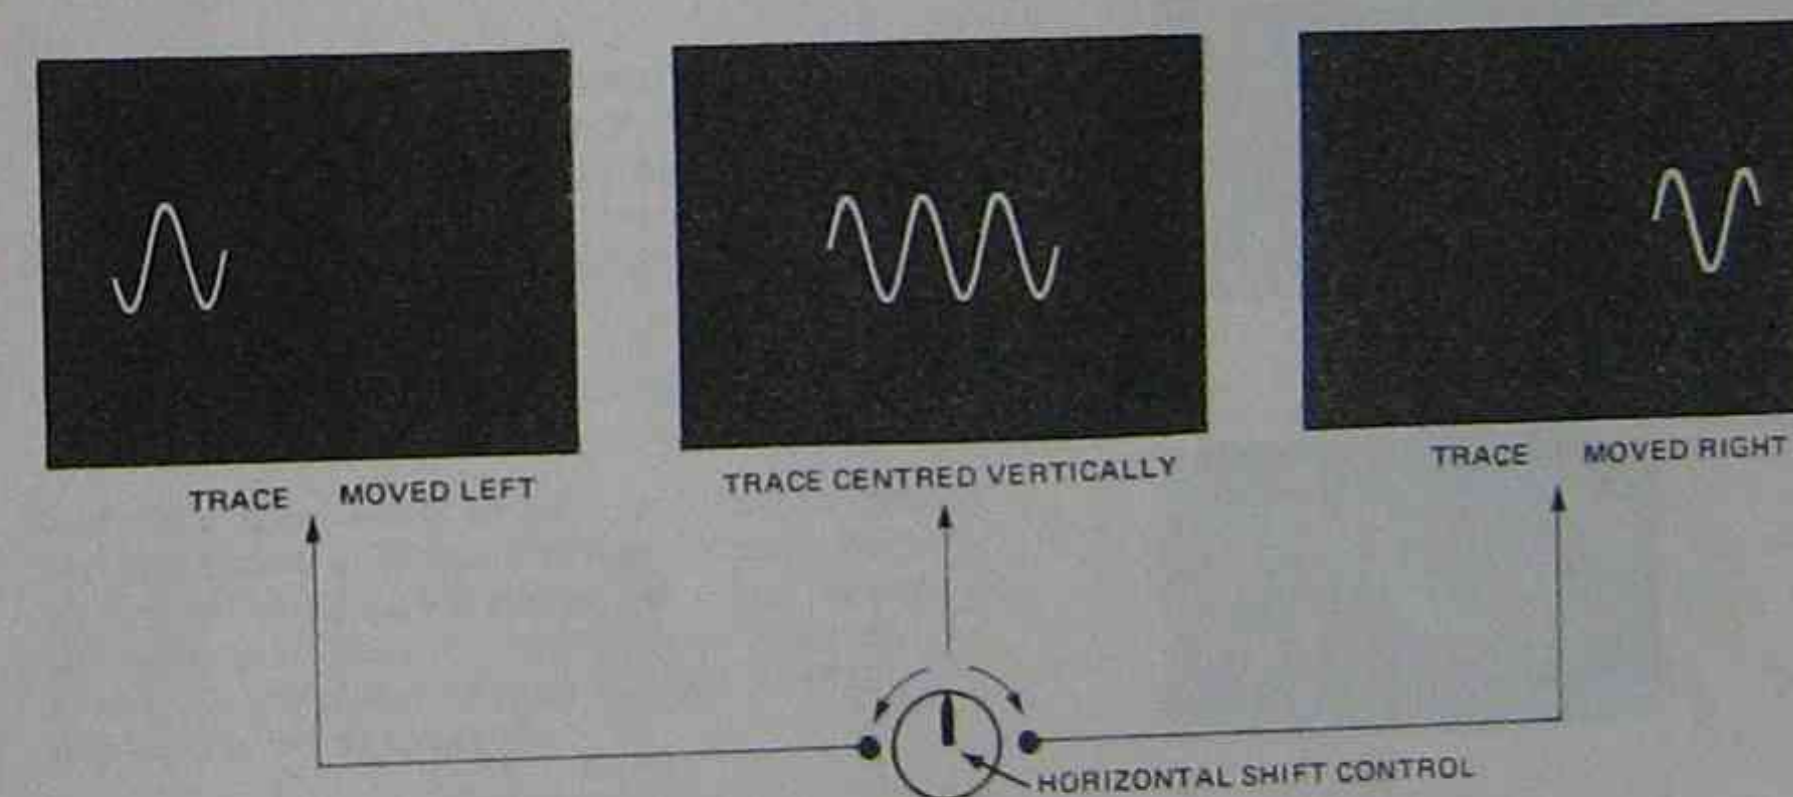

FIG. 29. HORIZONTAL SHIFT CONTROL.
8.6 HORIZONTAL SHIFT CONTROL. This provides control over the horizontal position of the trace and allows the start of the trace to be located at any required position across the screen, as shown in Fig. 29. The horizontal shift (or position) control also allows the trace to be lined up with the graduations on the graticule to simplify measurements along the horizontal scale of the graticule.